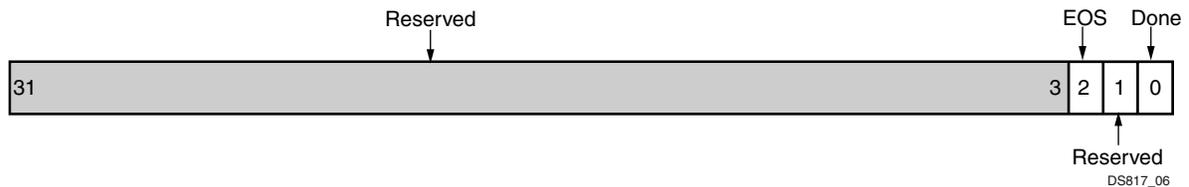

Figure 2-8: Status Register (SR)
The Status Register (SR) shown in Figure 2-8 is a 32-bit read register that contains the ICAPEn status bits. The bit definitions for the register are shown in Table 2-12.